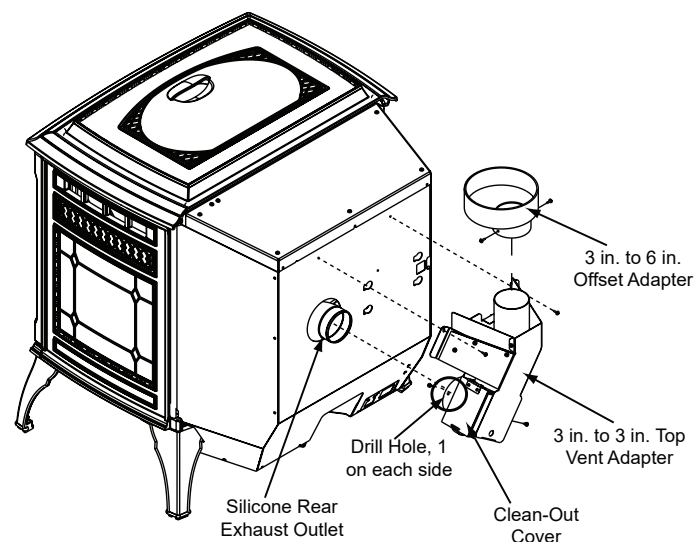

Figure 21.1
1. Put a layer of high temperature silicone on the 3 inch (76mm) exhaust outlet. Do not put silicone inside of pipe (**Figure 21.1**).
2. Slide the top vent adapter onto the rear exhaust outlet and adjust the assembly to a vertical position until the top of the flue outlet is centered and is in a level position (**Figure 21.1**).